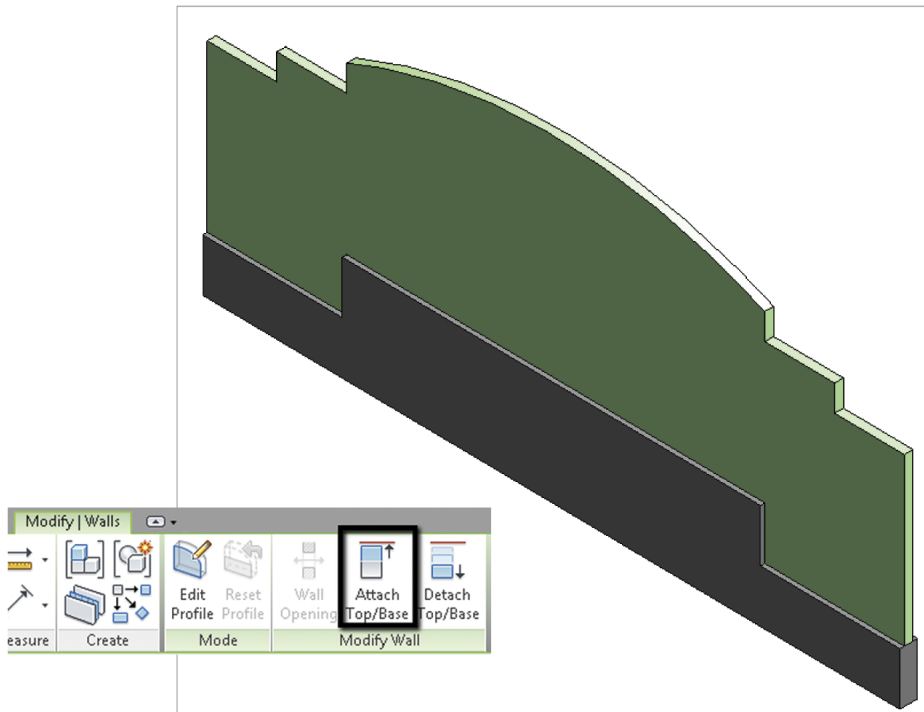

FIGURE 2.14 Attach Top/Base setting
3. Open the default 3D view to complete this step. Select the thicker wall, click Attach Top/Base (Figure 2.14), and confirm that the